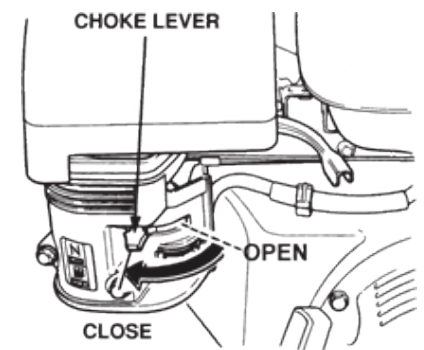

FIGURE 7
9.3 Place the choke lever (Figure 7) in the "CLOSED" position if starting a cold engine.
9.7 If the engine has started, slowly return the choke lever (Figure 7) to the OPEN position. If the engine has not started repeat steps 1 through 6.